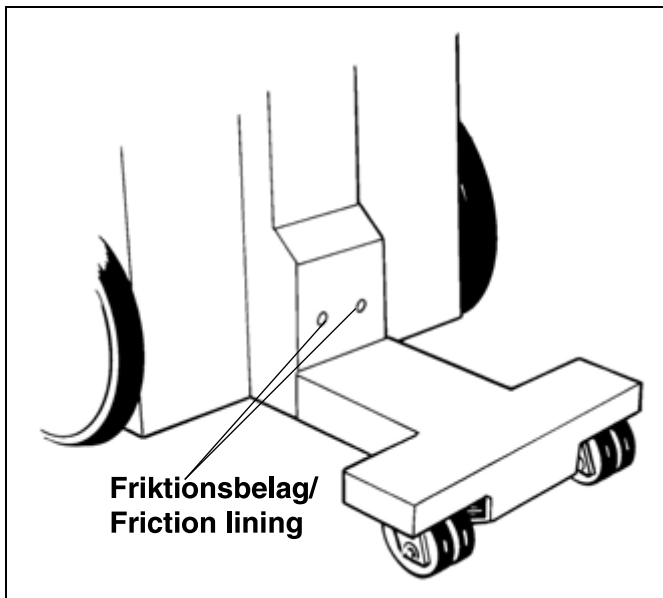

Fig. 46: Stability of the upper support arm
- Remove the plastic plugs that cover the friction linings in the column (Fig. 46 / p. 56).
- Loosen the friction linings through the holes in the column (Fig. 46 / p. 56)
If the upper support arm does not stay in the set position, the friction lining can be adjusted through the holes in the cover (Fig. 46 / p. 56).